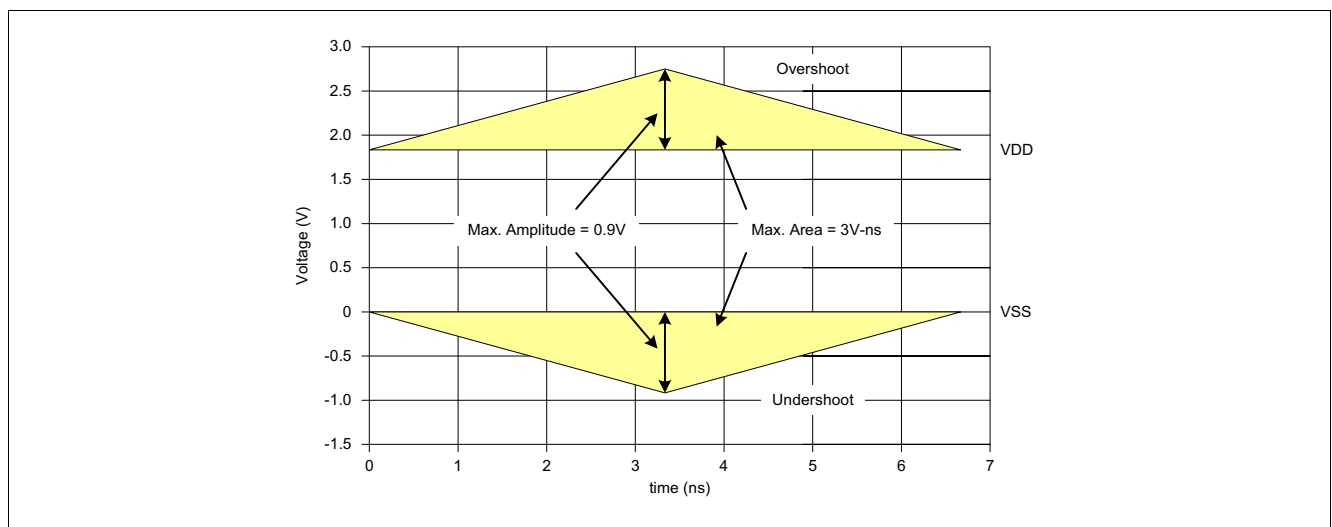

Figure 3 AC Overshoot and Undershoot Definition
- 2) See Table 13 and Figure 3 for overshoot and undershoot definition.